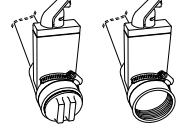

Figure 13.2h
3. Unscrew drain valve cap (Figure 13.2h). Place the cap aside.